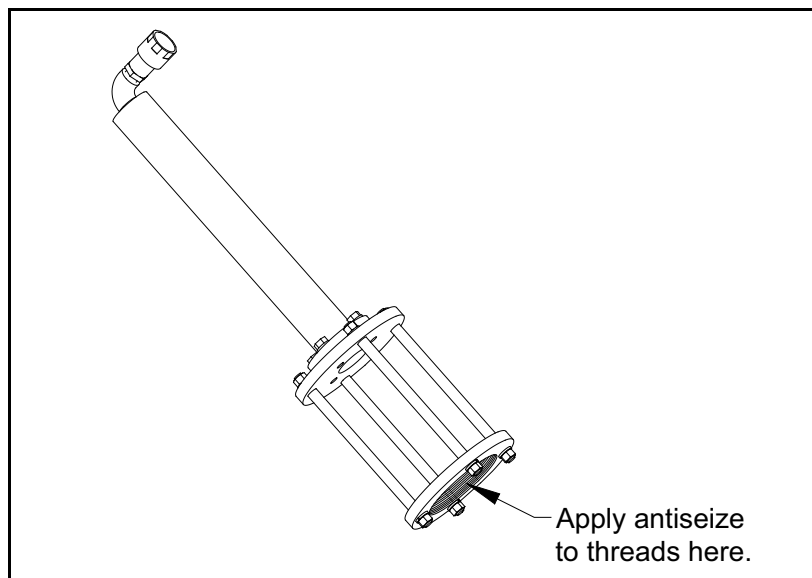

Figure 79: Insertion Mechanism - Anti-seize Application
3. Apply anti-seize lubricant to the insertion mechanism threads (see *Figure 79* below).